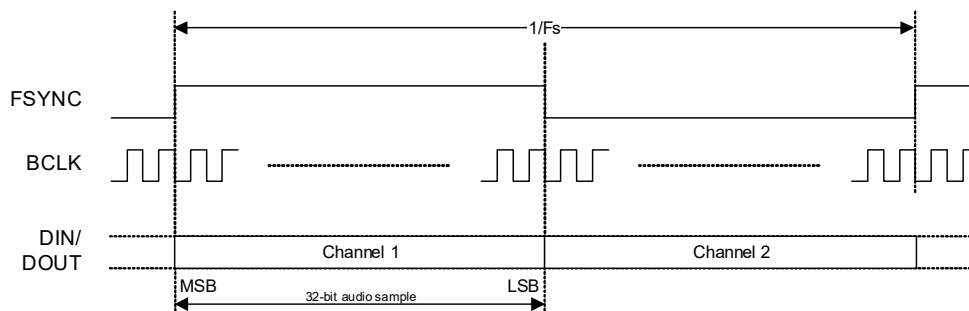

Figure 4-16. Left-Justified Data Format
- If Left-Justified data format is selected, the ASP supports audio channels 1–2 as shown in Fig. 4-16. The minimum BCLK rate is $64 \times F_s$ (where F_s is the sample rate). In ASP Primary Mode, the minimum BCLK rate of $64 \times F_s$ is not supported for sample rates of 16 kHz or 32 kHz. A higher BCLK frequency can be used, resulting in unused BCLK cycles between the LSB of one sample and the MSB of the next.